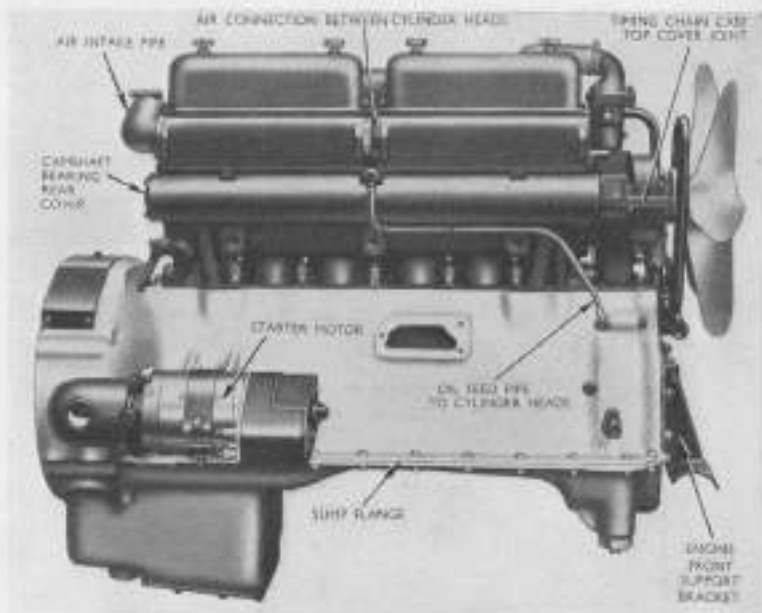

Fig. 14. Offside View of Engine.
(iii) AIR INTAKE PIPE JOINTS (*Fig. 14*).
(ii) The six nuts which hold the front support bracket to the crankcase should also be inspected; these are split pinned (see Fig. 14).
- (b) Sump flange (Fig. 14).
- (d) Engine front support bracket (Fig. 14) (inspection only).
- (h) Timing chain case top cover (Fig. 14).
- (m) Camshaft rear bearing cover at rear of cylinder block (Fig. 14).
- (a) Oil feed pipe to cylinder heads. Banjo pin at each end of pipe. (Fig. 14.)